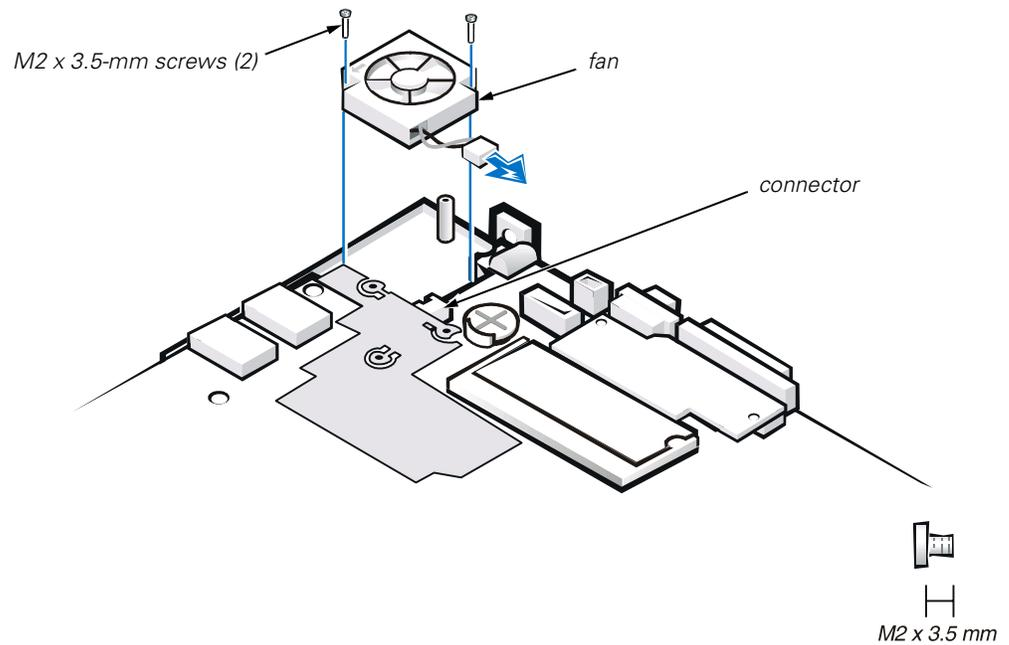

Figure 20. Fan Removal
5. Carefully disconnect the fan wire connector from the system board (see Figure 20).
6. Remove the two M2 x 3.5-mm screws that secure the fan to the bottom assembly (see Figure 20).